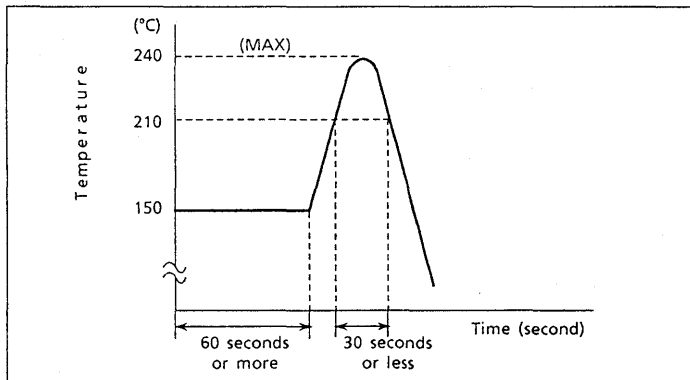

Fig. 6-2
3. Figure 6-2 is an example of recommended temperature profile.